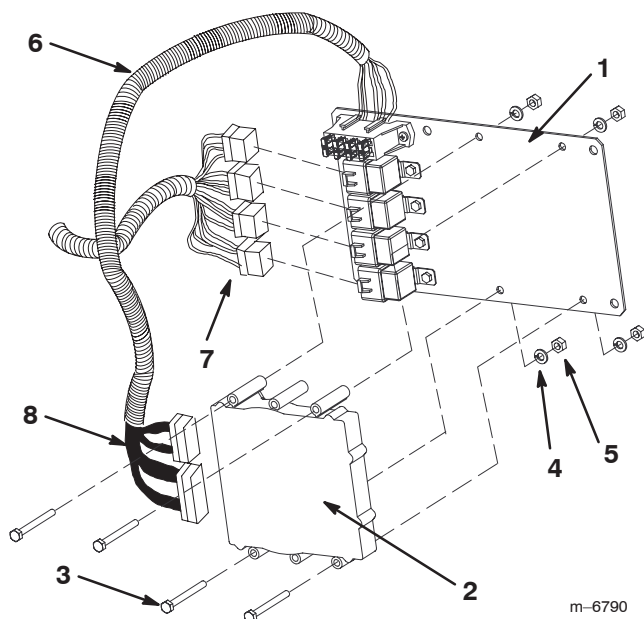

Figure 4
3. Secure the ECU to the mount plate (Fig. 4), using 4 bolts (1/4 x 2-1/2 inches), 4 lock washers (1/4 inch), and 4 nuts (1/4 inch).
6. Connect the relay leads on the wiring harness to the 4 relays on the mounting plate (Fig. 4).
7. Connect the 2 controller leads (one long and one short) on the wiring harness to the ECU (Fig. 4).